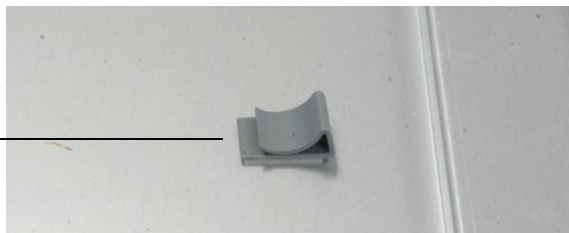

Figure 11 Slide cables into the cable clip
- 5 Slide the cables into the plate cable clip (Figure 11).